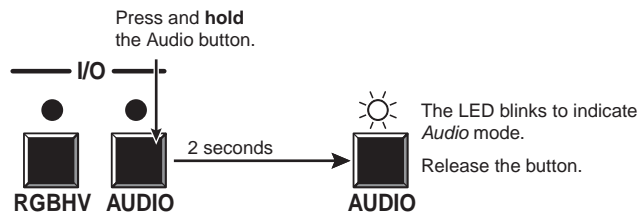

Figure 3-50 — Select Audio mode
2. Press and **hold** the Audio button for approximately 2 seconds (figure 3-50).